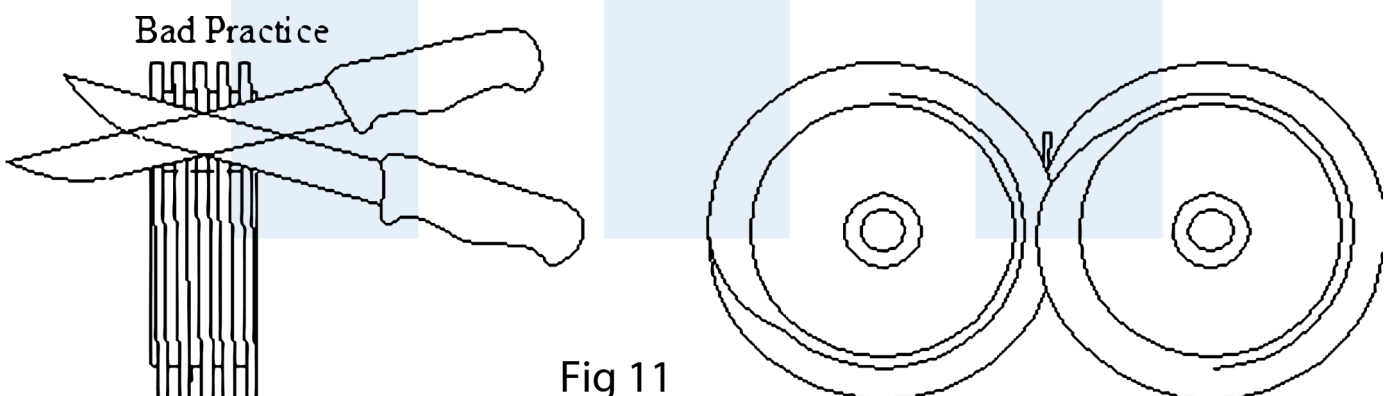

Fig 11
3. Avoid passing the blade over the front and back edges of the wheels at an incorrect attitude as this causes indentations in the ground edge and damage to the wheels as shown in figure 11 below.